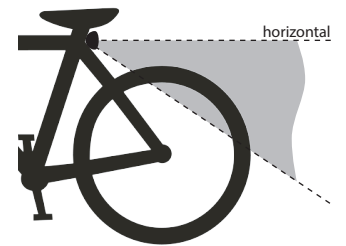

Fig. 1
- Class 2 LED. Do not look directly at the beam. Permanent eye damage could result. Consider other road users when mounting the light to avoid dazzling them. Always position the light so that it is pointing slightly downwards so it is not possible to dazzle road users behind (see fig. 1).